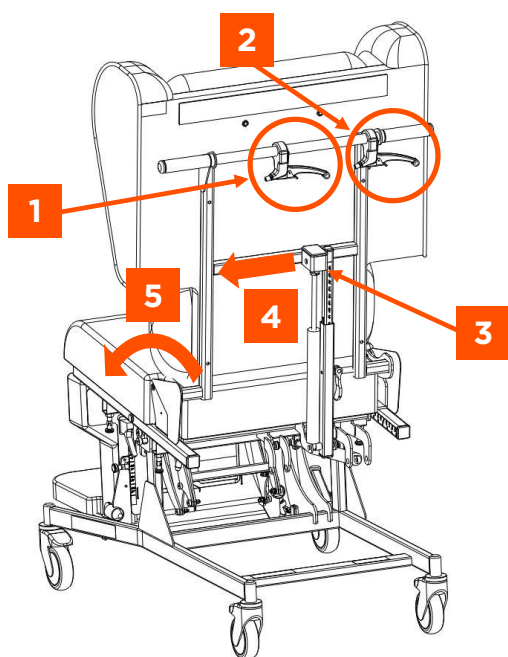
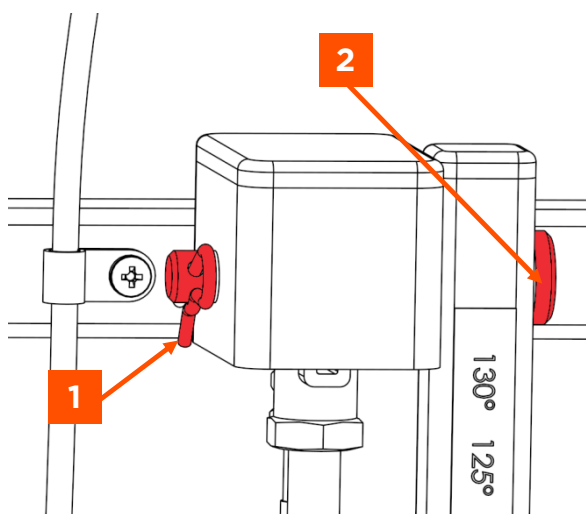
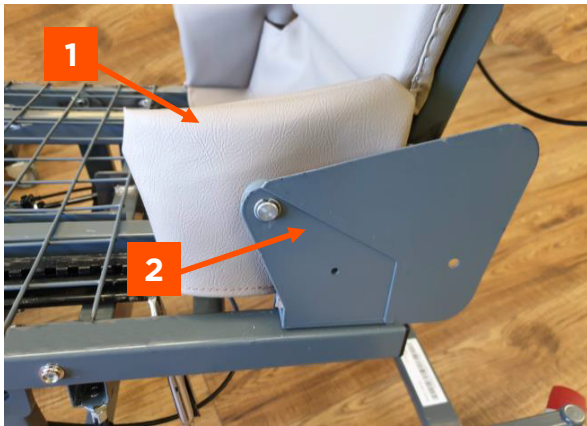

FIGURE 7
Figure 8 - top of backrest actuator
FIGURE 10 - (Seat cushion shown removed for clarity)
2. Remove the Backrest hand lever (Fig 7 Item 1) and the Tilt-in-Space hand lever (Fig 7 Item 2, if fitted) by removing 2 x cross head screws on each lever clamp. Leave the control cables connected and lay the levers to one side. Retain the screws for refitting.
3. Remove the R-clip (Fig 8, Item 1) and clevis pin (Fig 8, Item 2) from the top fixing of the backrest actuator (Fig 7, Item 3 & 4; Fig 8).
5. Remove the backrest hinge covers (Fig 10, Item 1) from the backrest pivot points (Fig 10, Item 2). Fold the backrest forwards (Fig 7, Item 5).
9. Refit the backrest actuator into the clamp on the postural backrest. Refit the clevis pin and R clip (Figure 8).